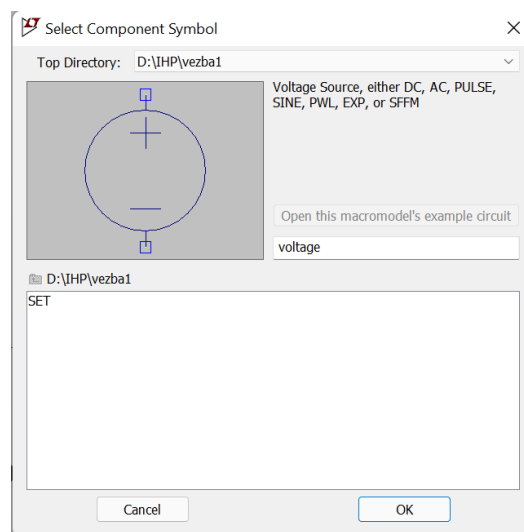
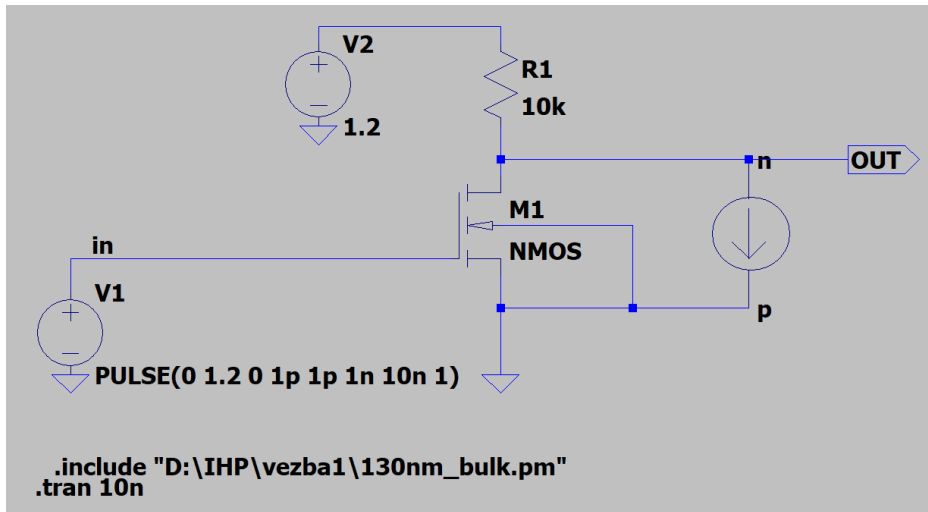

Fig. 12. Selection of component symbol
Fig. 13. Schematic with SET generator
16. In order to include the SET model in the simulation, you need to click on Components from the palette, and then select the path of the active project for the Top Directory, where we saved the SET model (Fig. 12). Choose a symbol and place it on the schematic (Fig. 13).